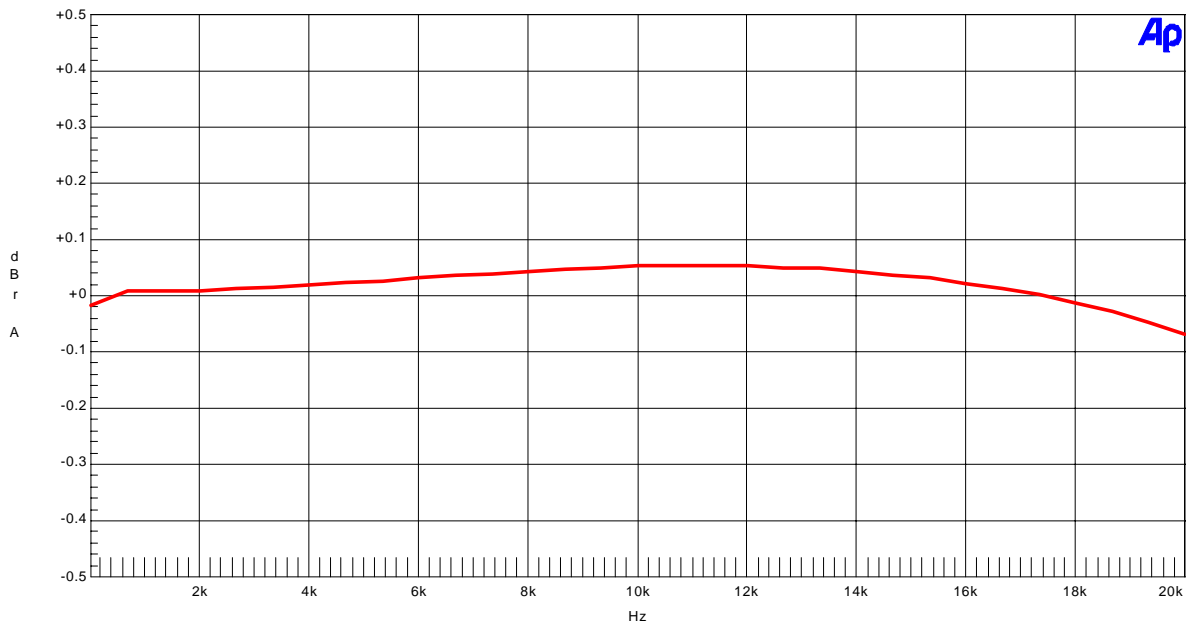

Figure 9. Frequency Response (fs=44.1kHz; 0dBFS input)
- Figure 9. Frequency Response (0dBFS input)